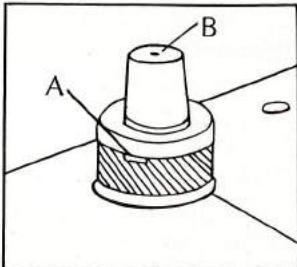
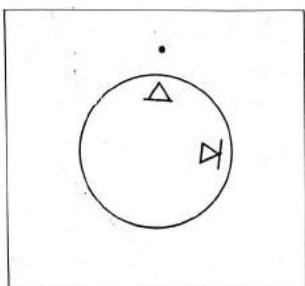
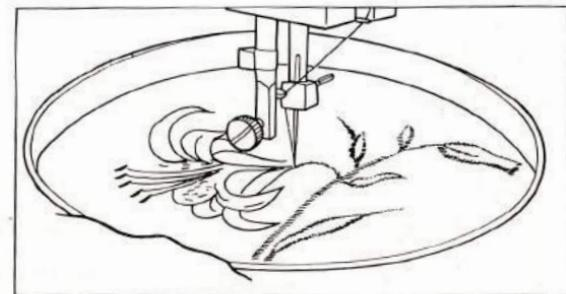
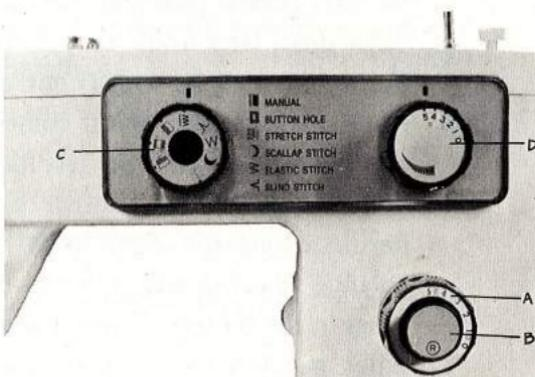

Fig. 14
Fig. 15
Fig. 21
Fig.17
General Sewing. Usually for normal sewing the pressure bar cap or darning release, (B, Fig. 14) is at its lowest position and the drop feed knob is turned to " Δ " position, (Fig. 15).
Sewing Thin or Light Weight Fabrics. When lighter pressure is required to sew satisfactorily on thin silk or flimsy material, the pressure cap should be about halfway down. Release all the way by pressing the snap lock, (A, Fig. 14) and then press cap (B) down again to halfway spot.
Darning and Mending. In order to move the fabric freely in any direction for darning and mending, release the pressure cap (B, Fig. 14) completely by pressing down on the snap lock, (A, Fig. 14)
Turn drop feed control (Fig. 15) to " Δ " position. This will drop the feed well below the needle plate. To return feed to normal position, turn knob to " \square " position.
- “D” Set zigzag width at 5, stitch length at 2. Sew a few zigzag stitches. Turn the drop feed knob (Fig. 15) to “ Δ ” position for 3 or 4 stitches then normal position again. By operating the drop feed knob rhythmically it is not necessary to count stitches. (D. Fig. 26).
1. Set pattern selector (C, Fig. 17) at "1" position.
2. With the zigzag width control (D, Fig. 17) set at the Number 5 and stitch length control (A, Fig. 17) as near 0 as possible without stopping the feeding action, a satine stitch is produced (Fig. 19).
4. With the machine set for a short stitch length, different designs can be made by turning the zigzag width control back and forth between 0 and 5 or any other combinations of widths. Try setting the zigzag width control (D, Fig. 17) at the first line and the various other lines. Set a rhythm for yourself and then proceed. After a while you will become quite skillful, varying your designs by the speed of the machine, stitch length and manipulation of the zigzag width control.
It is easy to follow a stamped design or to work free hand when embroidering or monogramming. (Fig. 21) Release the pressure from the foot by pressing down the snap lock on the darning. Turn the drop feed knob to "Δ" position (Fig. 15).
6. Turn the pattern selector (C, Fig. 17) to marking "2" position, and start to sew left side along the line.
The length of the stitch is regulated by the stitch length dial (A, Fig. 17).
When you wish to sew in reverse to tie the threads at the beginning or the end of a seam, press the reverse button (B, Fig. 17) as far as it will go. The machine will sew backward as long as the button is pressed.
For all ordinary manual sewing, straight or zigzag, make sure that the pattern selector (C, Fig. 17) is set at "straight & zigzag" stitch pattern (Marked 1).
By turning the zigzag width control (D, Fig. 17) clockwise from 0 toward 5, zigzag width will be increased, and by turning it counter-clockwise, it will be decreased, and at "0" position, the machine will sew straight stitches.
2. Turn drop feed knob to "XXXX" position (Fig. 15), pattern selector (C, Fig. 17) to "1" position and zigzag width control (D, Fig. 17) to "0" position.